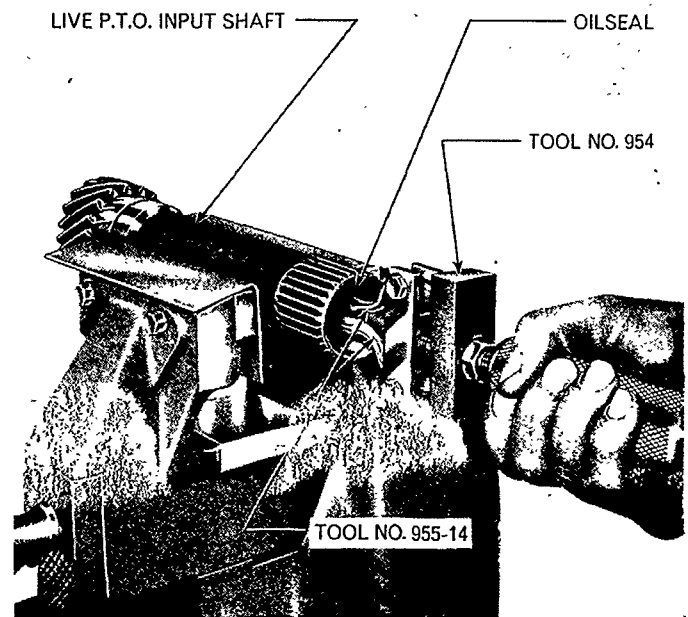

Figure 14
6. If necessary, remove the front oil seal and needle roller bearing from the Live P.T.O. input shaft, withdrawing seal and bearing in one operation, using Tools Nos. 954 and 955-14, Figure 14.